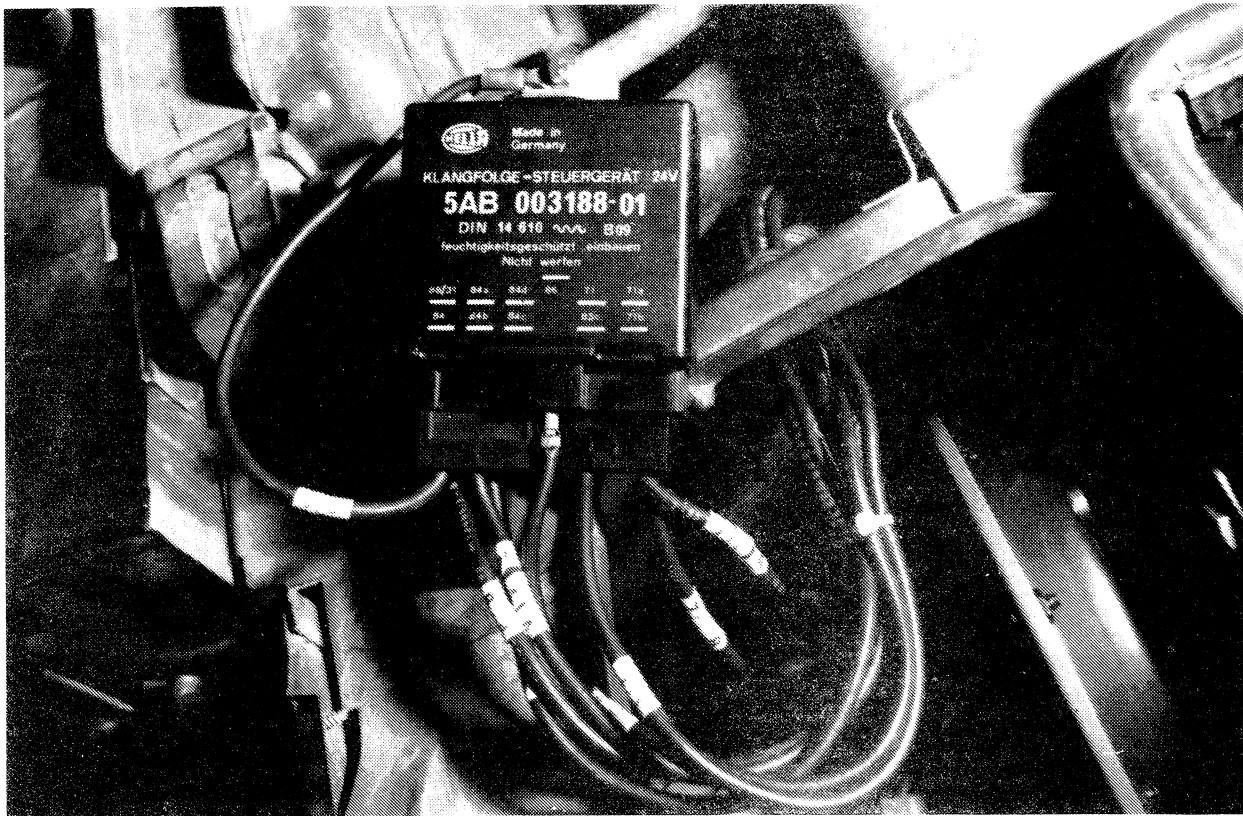

Figure 10 Wires Installed into Tone Control Unit
The wire terminal numbers are printed on the side of the tone control unit (see Figure 10). Make sure the wires are installed into the correct location in the control unit plug connector. Also use wiring diagram in Figure 11 when making the hook-up.
- c. See Figure 10. Place the tone control unit (5) in convenient location and insert each numbered wire terminal connector into the corresponding numbered socket in the control unit plug connectors, ensuring that the terminals are locked in place.
- d. At the opposite end of the wires, route wire 84a to the light strut and using the coupler (20), connect to wire 84a leading from the strut (31).